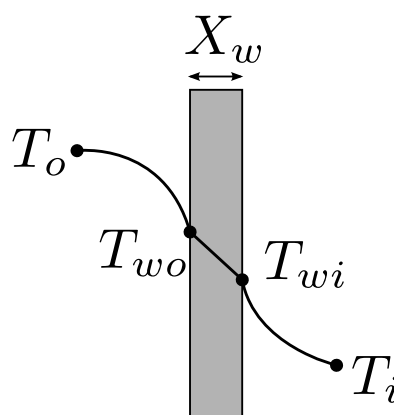

Figure 22: The temperature profile through the pipe wall.
a) Chilled water flowing through brass tubes of 0.0126 m inside diameter and 0.0018 m thickness cools a stream of air flowing outside of the tube. The film coefficients for the air and water flows are $176 \text{ W m}^{-2} \text{ K}^{-1}$ and $5660 \text{ W m}^{-2} \text{ K}^{-1}$ respectively and thermal conductivity of the brass is $102 \text{ W m}^{-1} \text{ K}^{-1}$ (see Fig. 22).